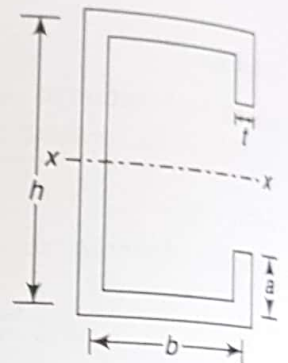

Fig. 6.38
Locate the shear centre for the section shown in Fig. 6.38.
**Given** A channel section as shown in Fig. 6.38